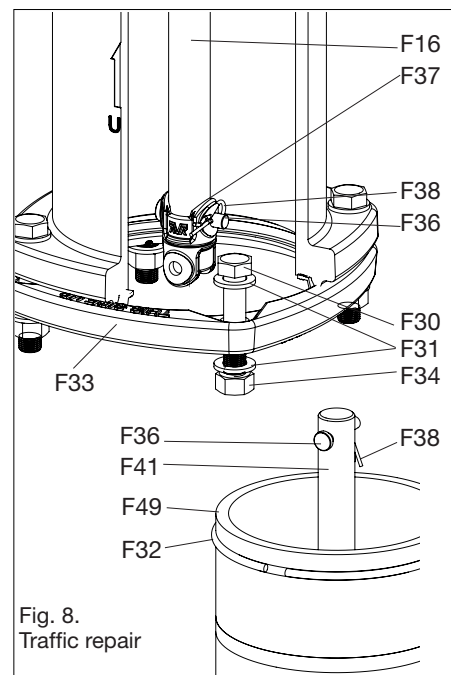

Fig. 8. Traffic repair
1. Remove the hardware (F30, 31, 34) from the breakable flange (F33). Slide the lock ring (F32) off of the lower barrel (F49) (see fig. 8).
WARNING: Be sure the breakable flange (F33) is right side up, indicated with the text “This Side Up”, facing towards the nozzle section (See fig. 8 & 9). Slide a new lock ring (F32) into the groove on the lower barrel.